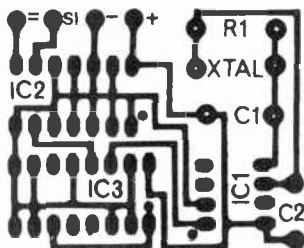

Fig. 2. Foil side, components mount on other side of board. Dots denote pin 1 of IC's.
**Construction.** The timer circuit is best assembled on a small printed circuit board, the etching and drilling guide/component-placement diagram for which is shown in Fig. 2. It is important to use care when mounting the crystal so that it can be bent back to lie flat against *R1*. Alternatively, *R1* can be mounted on the bottom side of the board and the crystal bent back to lie flat on the board itself.